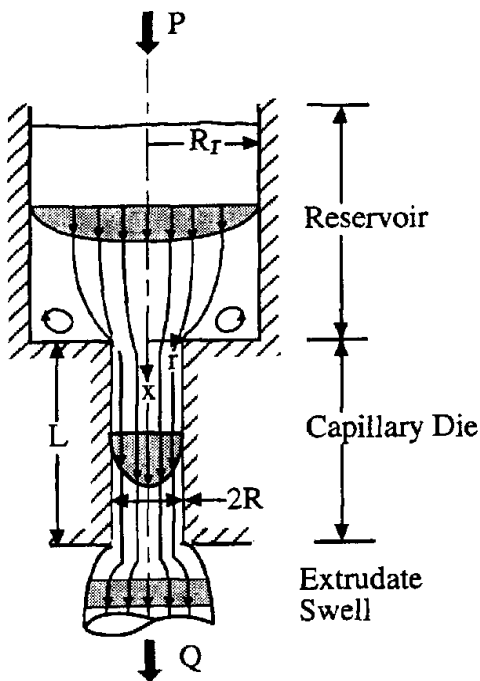

Figure 1: The Capillary Rheometer.
Figure 1: (A) Isothermal Storage Modulus $G'(\omega)$ of a Polystyrene at Six Temperatures. (B) Storage Modulus Master Curve at Reference Temperature $T_0 = 150$ °C.